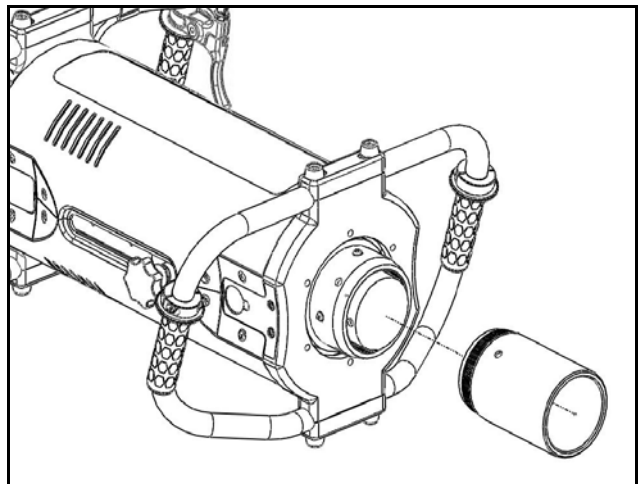

Figure 2 – Impactor Guide Sleeve Removal
2. Use the spanner wrench to remove the Impactor Guide Sleeve (see Figure 2). The sleeve unscrews counterclockwise from the Impactor Assembly Retaining Nut. A light tap from the dead-blow hammer on the spanner wrench may be necessary to disengage the collar.